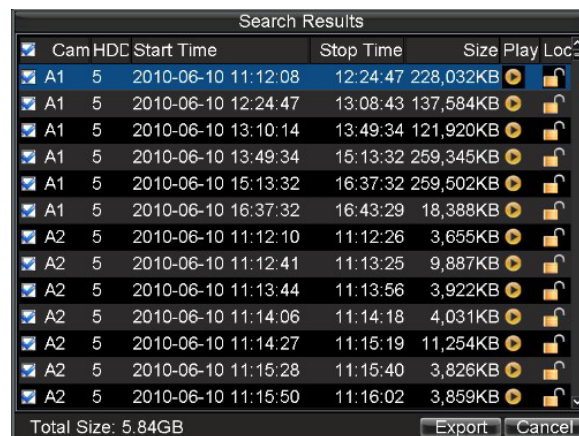

Figure2. Video Search Results
4. Select the files to export, as shown in Figure 2. You may also click the Play icon to verify that these files are indeed the ones you would like to export.